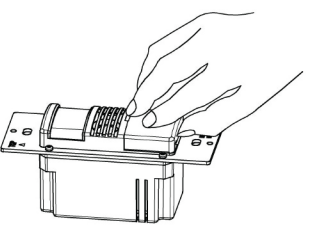

Figure 3
6. Remove the small cover plate (illustrated in Figure 3).
7. Locate the adjustment trimpots on the control panel to perform test and adjustment (illustrated in Figures 3 and 4).